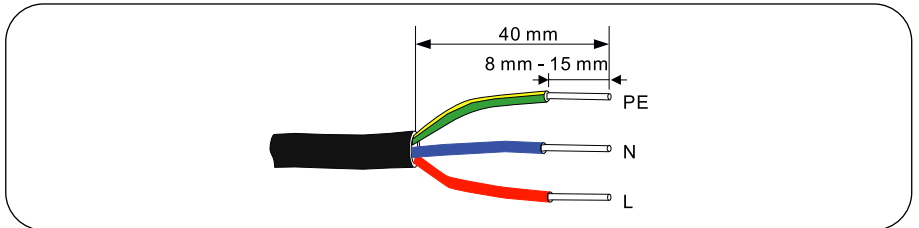

Figure 18
- Remove a length of 40 mm of the cable jacket (be careful not to cut through the sheath, damaging the insulation) and strip the wire insulation to a length of 8-15mm (see Figure 18).